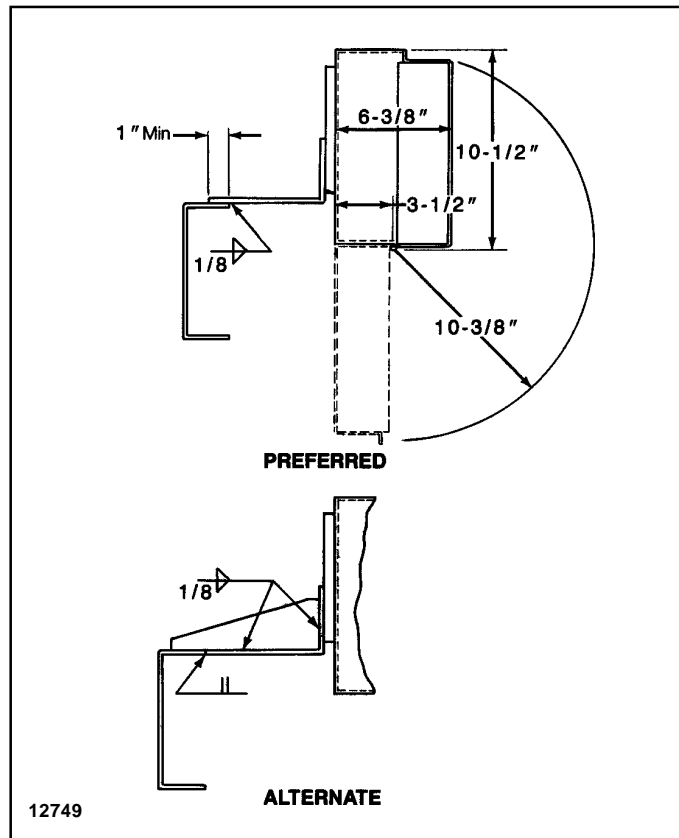

Figure 9.
11. The electrical enclosure is shown mounted on the inside of the truck over the gear reducer in Figure 17. The connecting bracket may be mounted in any of 3 vertical locations on the enclosure bracket when oriented as shown. It may also be rotated 180° (out standing leg at top) giving 3 additional positions. The enclosure bracket may also be adjusted horizontally on the enclosure. The connecting bracket may be welded to a truck or to the girder. If the bracket rests on the supporting member, a 1" minimum overlap is required. Weld as shown in Figure 9. If the bracket is to be supported by weld at the toe only, a stiffener plate must be furnished by the crane fabricator. Weld as shown in the alternate view in Figure 9.
5. The electrical enclosure is shown mounted on the inside of the truck over the gear reducer in Figure 17. The connecting bracket may be mounted in any of 3 vertical locations on the enclosure bracket when oriented as shown. It may also be rotated 180° (outstanding leg at top) giving 3 additional positions. The enclosure bracket may also be adjusted horizontally on the enclosure. The connecting bracket may be welded to a truck or to the girder. If the bracket rests on the supporting member, a 1" minimum overlap is required. Weld as shown in Figure 9. If the bracket is to be supported by weld at the toe only, a stiffener plate must be furnished by the crane bridge fabricator. Weld as shown in the alternate view in Figure 9.